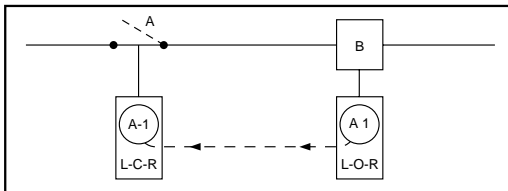

Figure 2
**Sample Application—2 (See Figure 2)**